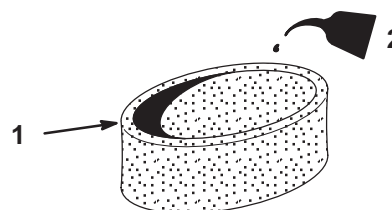

Figure 31
3. Put one or two ounces of oil on the element (Fig. 31). Squeeze the element to distribute the oil.